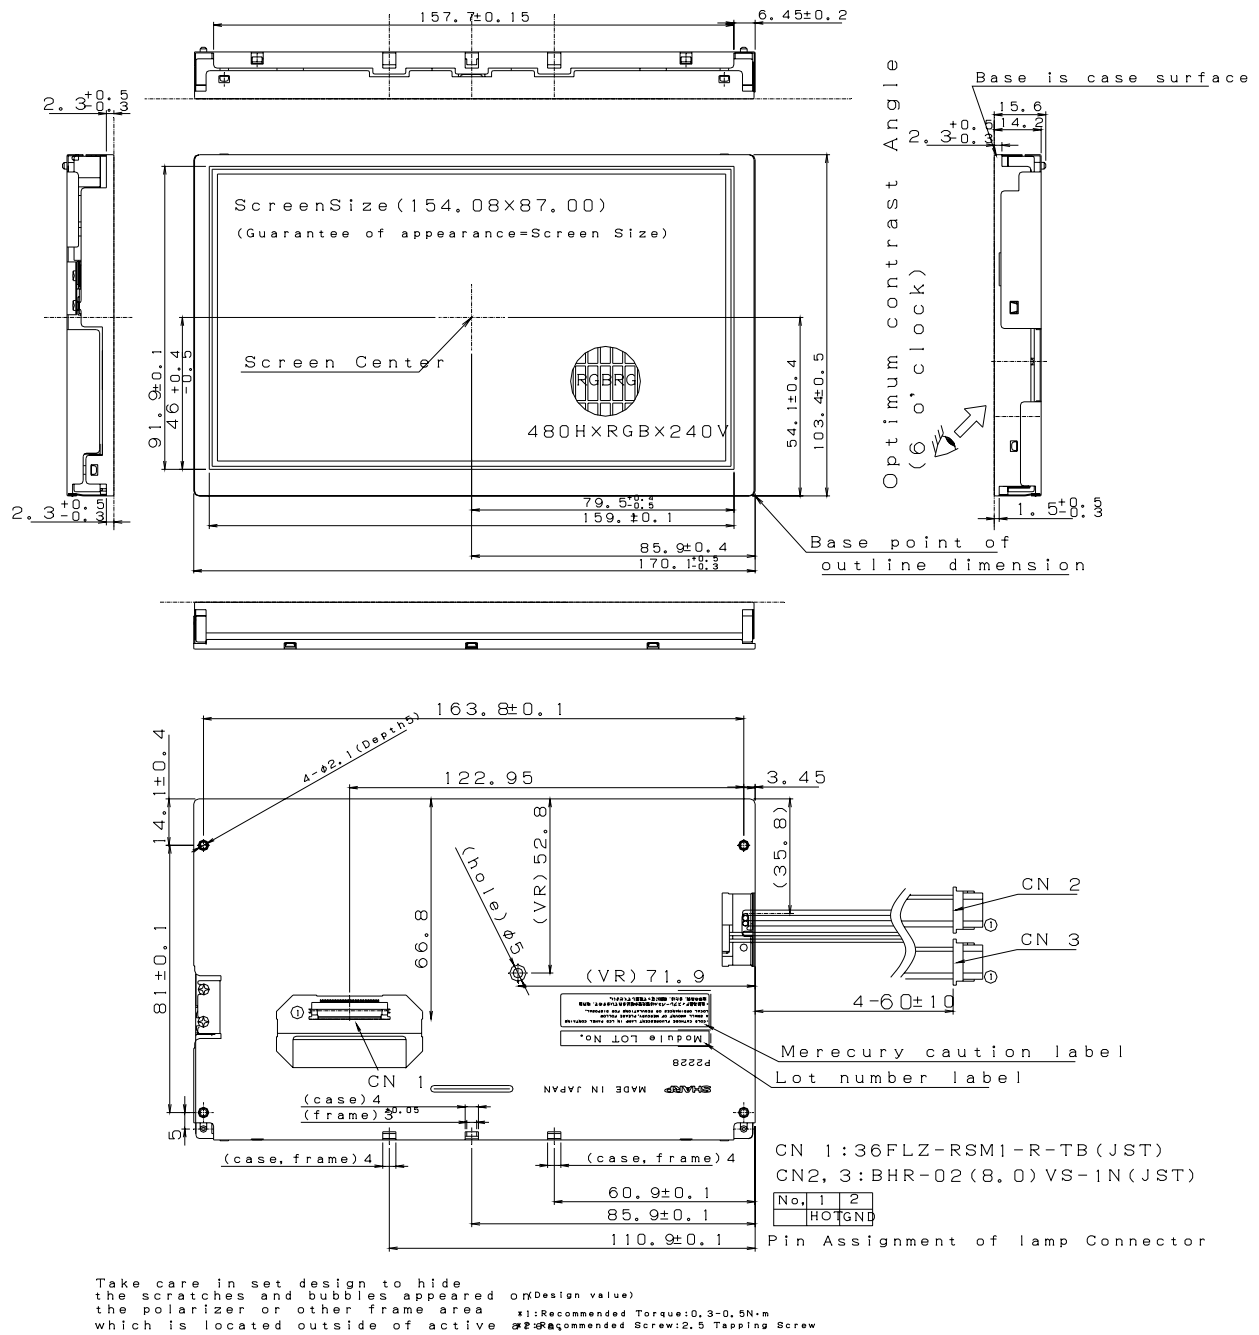

Fig.1 Module Construction
Do not exist extreme defects. (See Fig. 1)
- ①Attached location of the label : See Fig.1 (Outline Dimensions).
- ②Indicated contents of the label